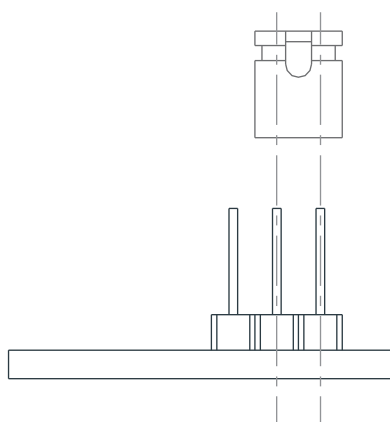

Figure 2
- b.) When customer needs remote lamp, please insert terminal to Y. (See **Figure 2** below)